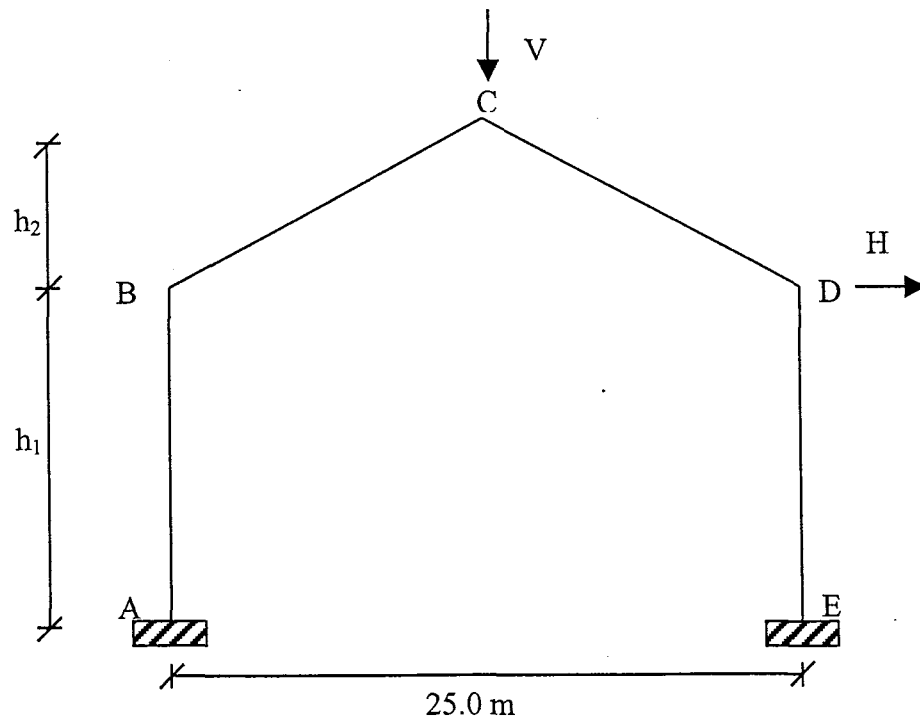

Figure 1.0
- (b) Describe **THREE (3)** methods of cleaning steel structures for removing all millscalls. (10 marks)
2. Figure 1.0 shows a single bay fixed base portal frame which has been constructed with steel grade S275, using the plastic theory of design. Details of the frames and loading are given below:-
By assuming modes of failure as shown in the Figure 1.0,